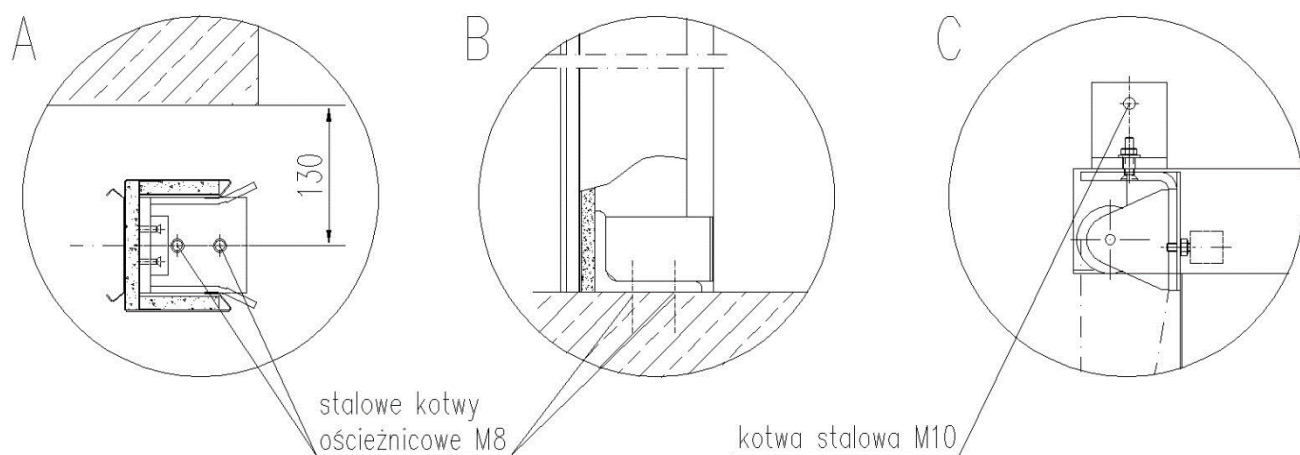
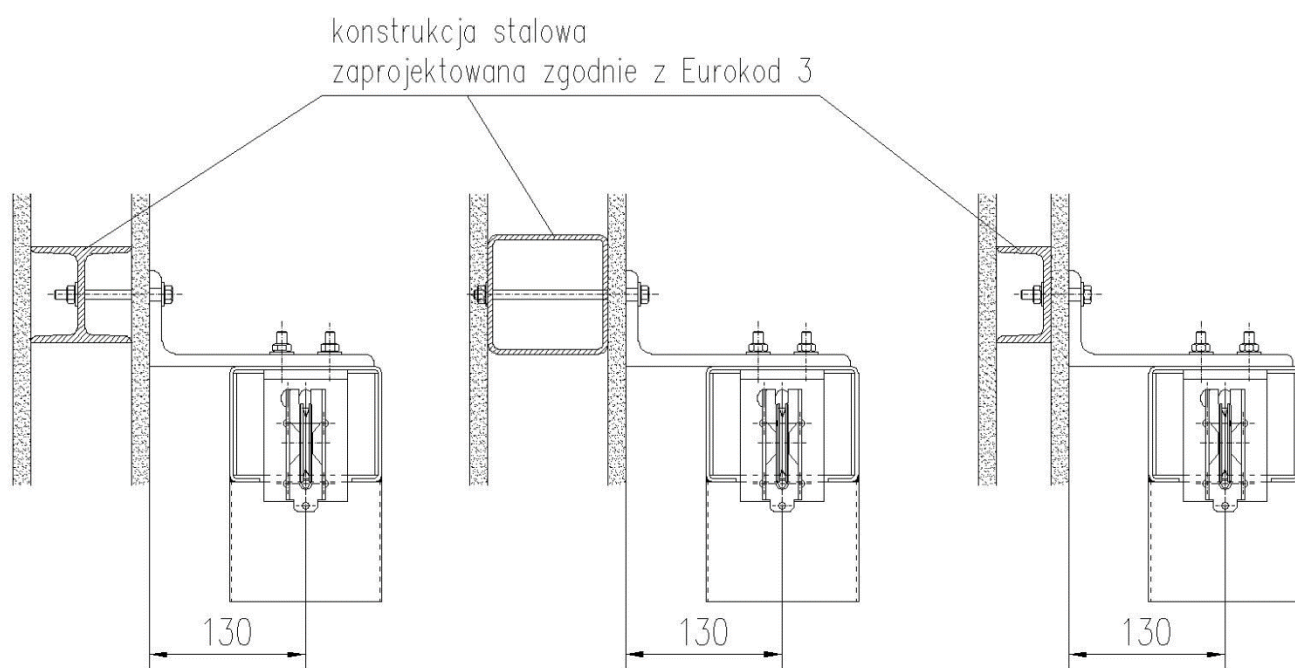

Figure 5: Front module - assembly
Figure 6: Front module - fixing it to the steel construction
- Mount the front module on the floor, using two steel door frame anchors M8x72(52) (Fig. 5 – detail B and C);
- Mount the front module on the wall through the wall-mounted support, using steel anchor M10, (Fig. 5 – detail A, for the steel construction Fig. 6).
- Install the front module to the steel construction using screws M10 with nuts and washers (Fig. 6);